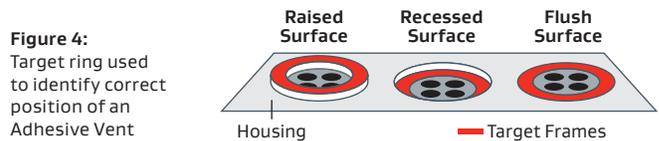

Figure 4: Target ring used to identify correct position of an Adhesive Vent
- The accuracy of the vent placement can be improved by making or establishing a “target area” on the vent housing (Figure 4)